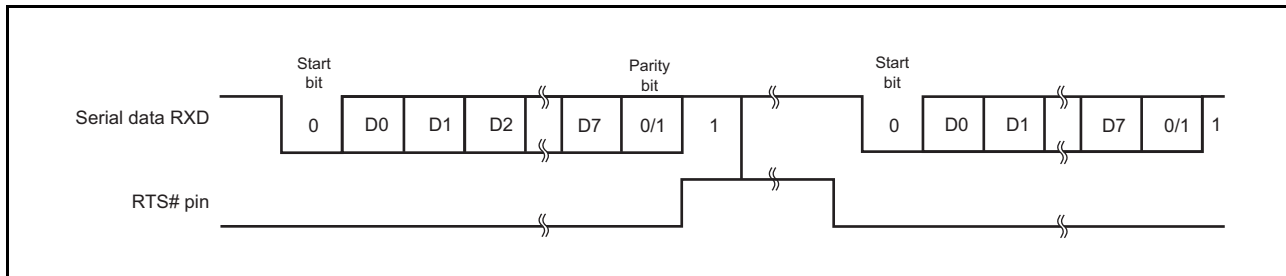

Figure 25.10 Example of SCIFA Receive Operation in Asynchronous Mode Using Modem Control Function (RTS#)
- When modem control is enabled, the RTS# signal that indicates the FRDR register has space is output. When the RTS# pin is at low level, reception is possible. The RTS# pin being at the high level indicates that the number of entries in the FRDR register is equal to or greater than the threshold for output of the active level of the RTS# signal and that the transmission of further data needs to be suspended until the FRDR register has enough space. Figure 25.10 shows an example of the operation for reception in asynchronous mode when using the modem control function.